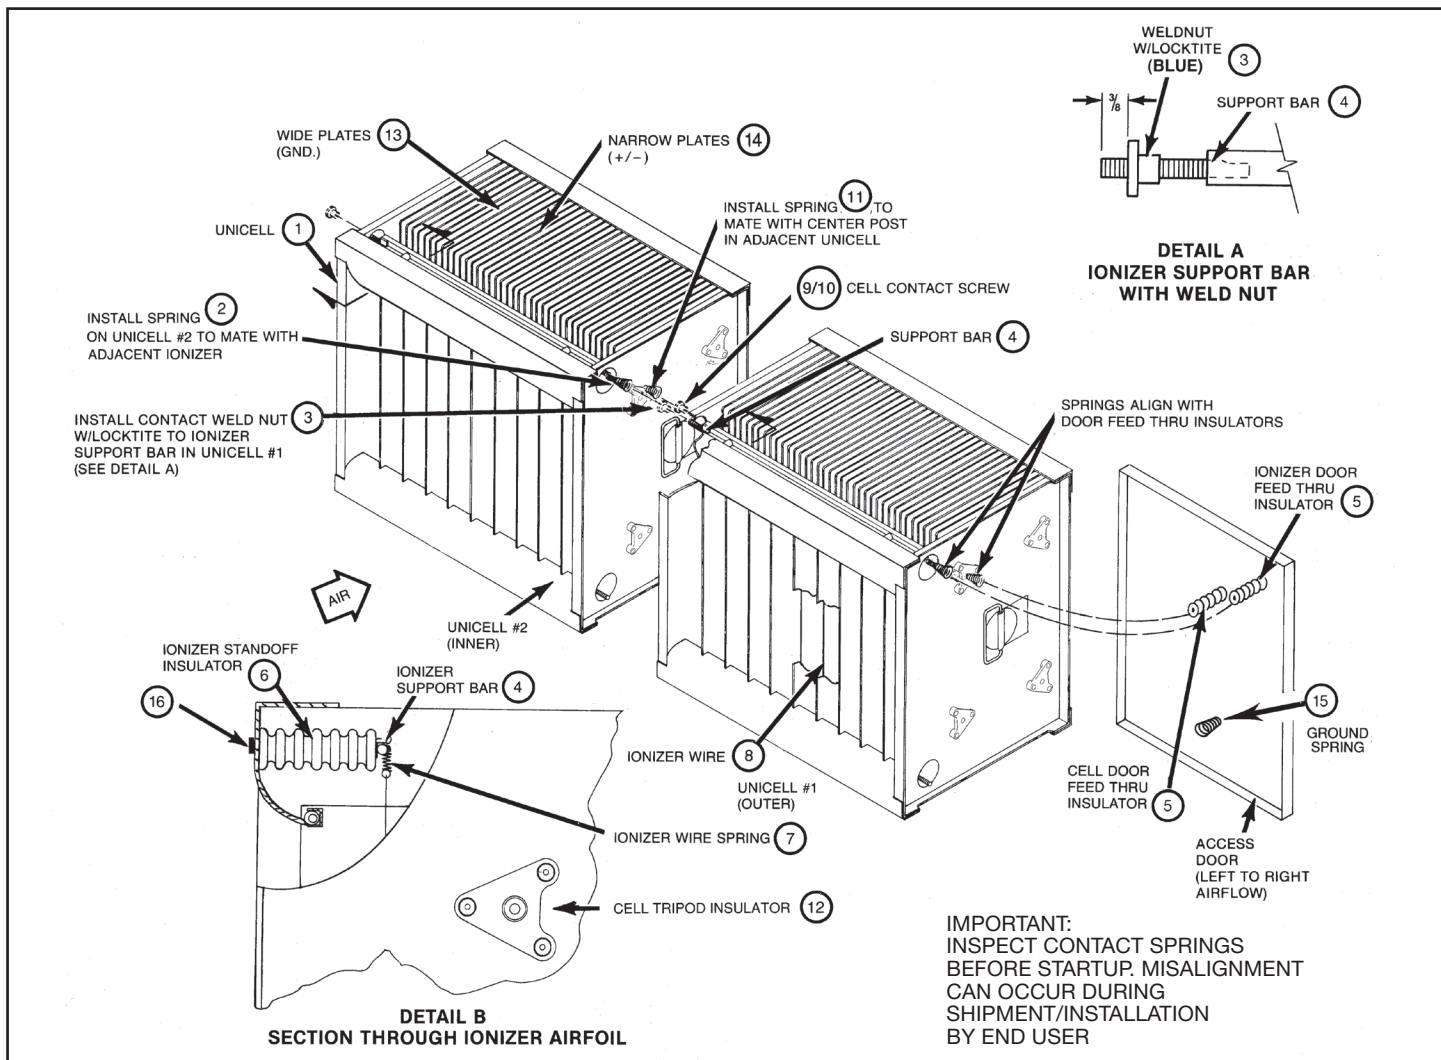

Figure 18 Property Aligned SGN Unicell Assembly
- Misaligned contact springs (contacting a grounded surface) between the outer and inner most ionizer, if module is equipped with two unicells, or at the ionizer high voltage feed through insulator. Refer to Figure 18.
This assures prompt handling and service. Replacement parts are listed in Figure 18.